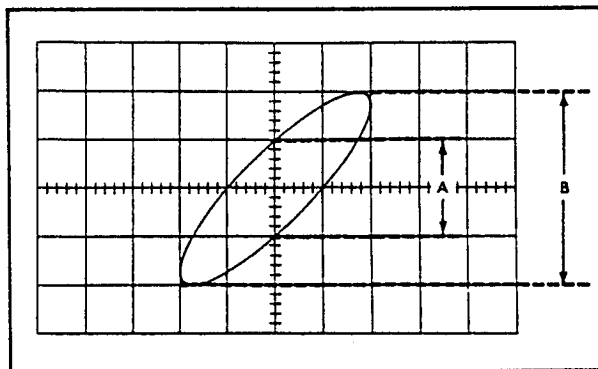

Fig. 2-25. Phase-difference measurement from an X-Y display.
3. Position the display to the center of the screen and adjust the VOLTS/DIV switches to produce about 4 divisions in each direction. The CH 1 VOLTS/DIV switch controls the horizontal deflection (X) and the CH 2 VOLTS/DIV switch controls the vertical deflection (Y).
4. Center the display in relation to the vertical graticule line. Measure the distances A and B as shown in Fig. 2-25. Distance A is the vertical measurement between the two points where the trace crosses the vertical centerline. Distance B is the maximum vertical height of the display.
**Example.** Assume an inherent phase difference of  $2^\circ$  with a display as shown in Fig. 2-25 where A is 2 divisions and B is 4 divisions.